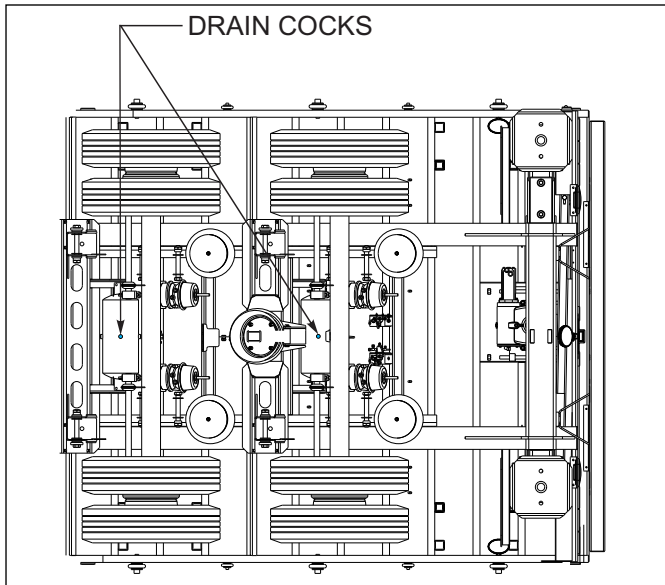

Figure 4-7: Drain Cock Locations
4. Drain air reservoir daily. A drain cock on the bottom of each air reservoir vents the tank to drain collected water and oil. If held open, air pressure in the tanks is relieved, causing the emergency or parking brakes to be applied (*See Figure 4-7.*)